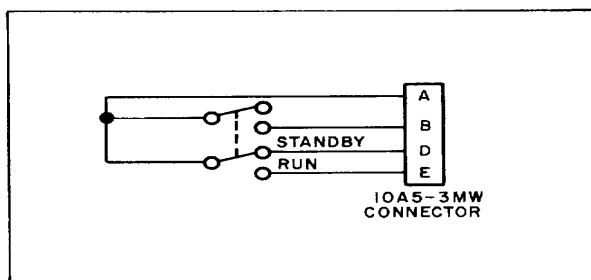

Figure 2-8. Remote Run Circuit Diagram
2-50. The 7702A Recorder chart drive START- STOP function and the MARKER function can be controlled from a remote location. The circuits required are shown in Figures 2-8 and 2-9.
2-52. Construct the circuit shown in Figure 2-8.
- 1 Connect the switch circuit shown in Figure 2-8 to J13 on the rear panel of the recorder.